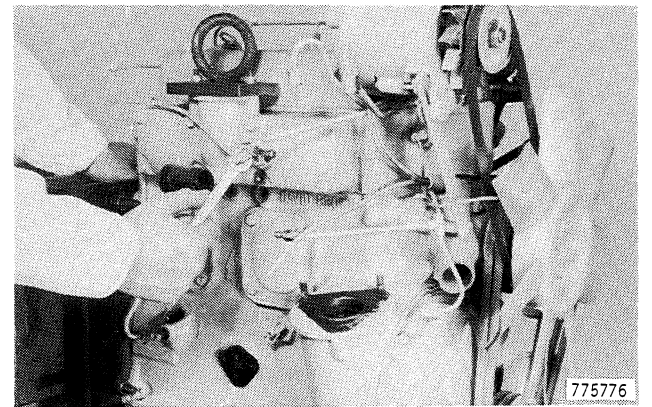

Figure 30
5. Disconnect the thermostart tube from the thermostart unit, Figure 30.